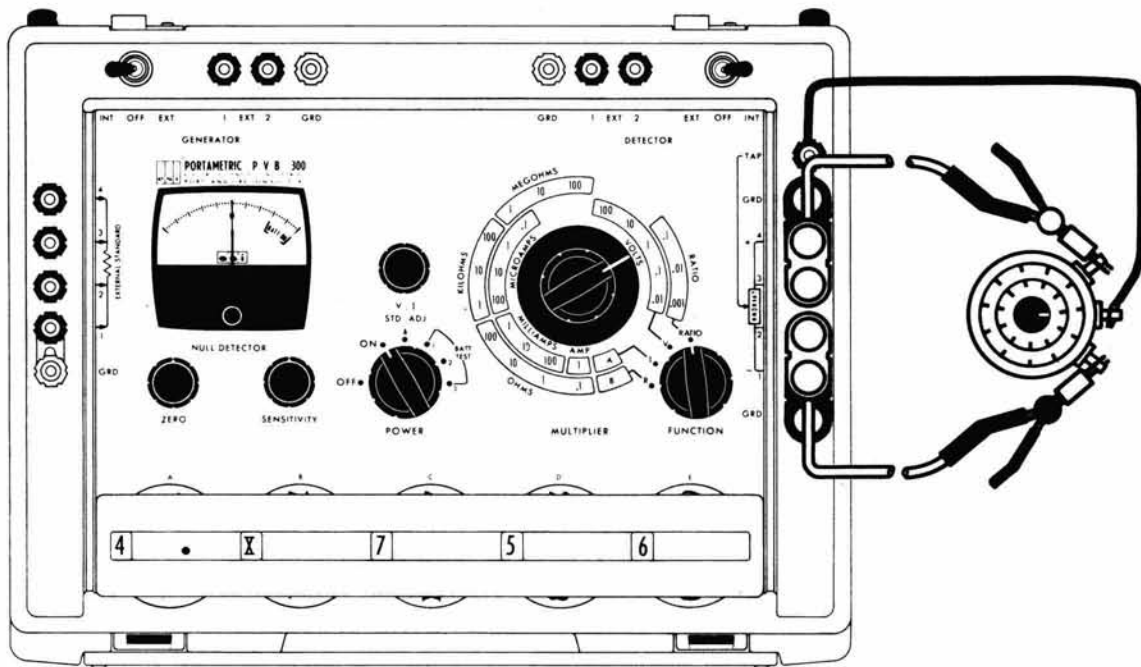

Figure 2.9 - Ratio Measurement
- 7) Connect the unknown resistive voltage divider to the UNKNOWN terminals. If the measurement ratio is between 0 and 0.51, connect the divider high (1.0) end to terminals 3 and 4 and low (0) end to terminals 1 and 2. (If the ratio is between 0.51 and 1.0 reverse the divider high and low end connections.) The divider output terminal connects to the TAP terminal. See Figure 2.9.
- 14) The value of the unknown ratio is read from the MAIN DECADE dial setting (S) times the MULTIPLIER setting (M). If the divider